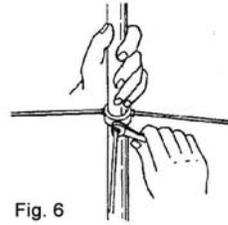

Fig. 6
- Attach three radial elements with the wrench as shown in Fig. 6.